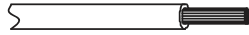

Fig. 8 — Stripping the Wire
- Strip a suitable length of the insulation layer as shown in Fig. 8.